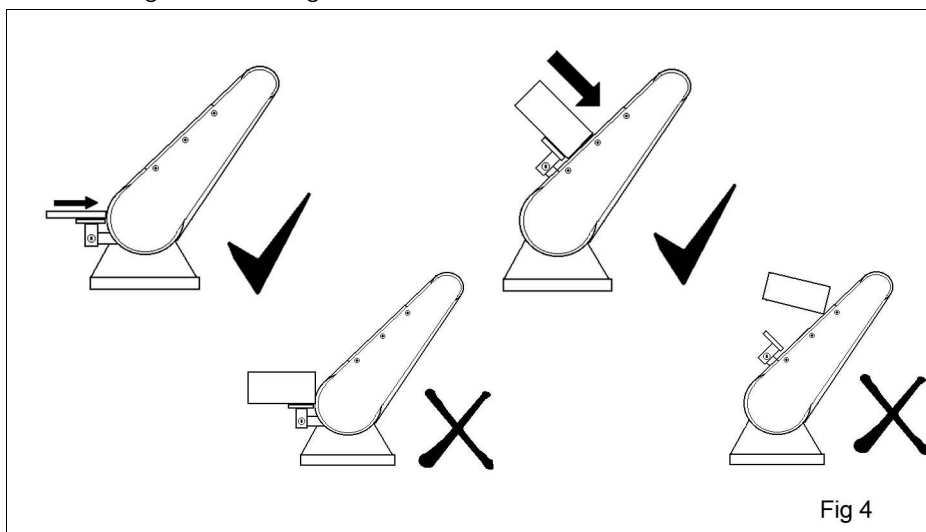

Fig 4
1. Position the sander work rest as required (see fig. 4) and adjust as described on page 12.